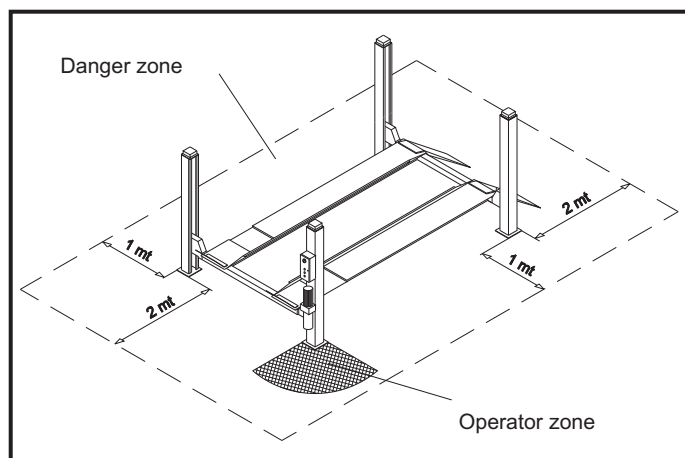
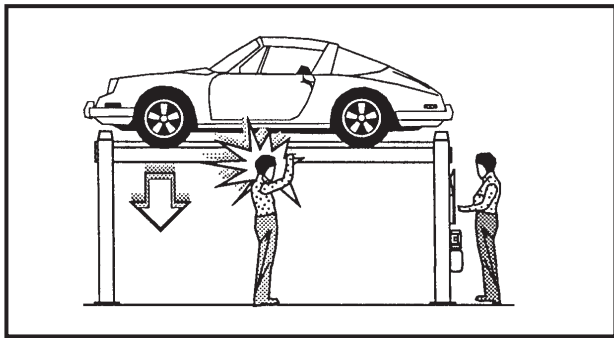

Fig.16
Fig.26
During lift functioning, the operator must remain in the control station as defined in figure 16.
The presence of persons beneath the cross-pieces and/or the platforms when they are moving, or the presence of persons inside the danger zone indicated in figure 16 is strictly prohibited.
- do not enter the danger zone while vehicles are being lifted (see Fig.16),
When the platforms and the vehicle are lowering personnel are prohibited from entering the area beneath the movable parts of the lift (fig.26). The lift operator must not start the manoeuvre until it has been clearly established that there are no persons in danger zone (fig.16, 26, 27).